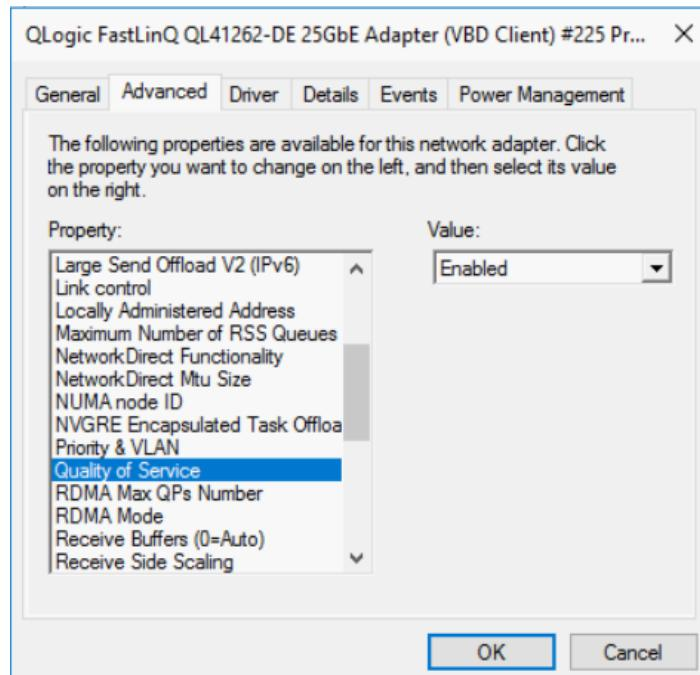

Figure 13-9. Advanced Properties: Enable QoS
- b. On the adapter's Advanced Properties page (Figure 13-9) under **Property**, select **Quality of Service**, and then set the value to **Enabled**.